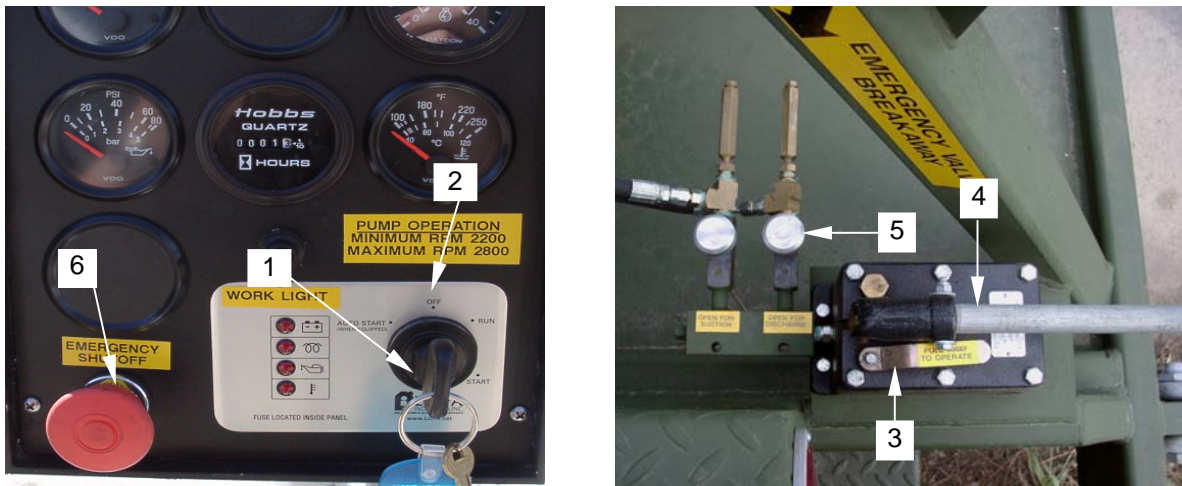

Figure 40. Control Panel and Hydraulic Valve Controls
- n. Close drain valve by placing hydraulic pump selector lever (figure 40, item 3) parallel with pump handle (figure 40, item 4).
- o. Shut down diesel engine by turning ignition key (figure 40, item 1) to the OFF position (figure 40, item 2). Remove key and push in emergency shutoff button (figure 40, item 6).
- p. Close drain valve (DISCHARGE) hydraulic control knob (figure 40, item 5).